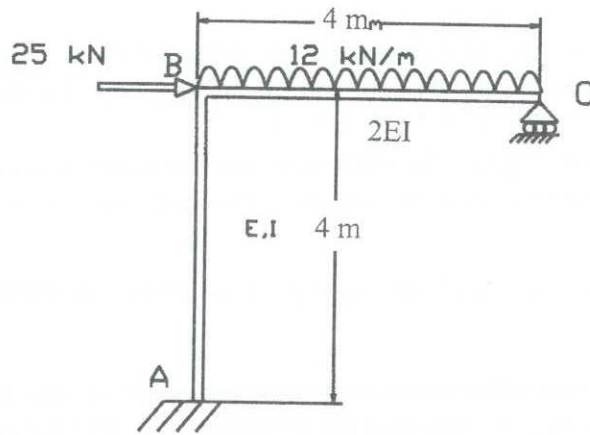

Fig Q3
Q3. Fig. Q3 shows idealized frame structure ABC. The beam BC has twice the stiffness of the column AB. The beam, BC is expected to carry uniformly distributed load of 12kN/m , whereas 25 kN horizontal load is applied at the joint B. The flexural stiffness (EI) of the column element AB is $2.5 \times 10^4\text{ kNm}^2$.